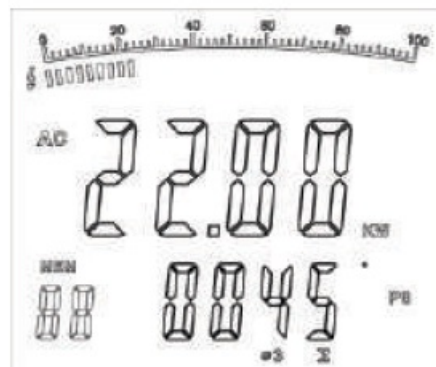

Figure 12
5. If necessary, press Σ to get the sum of watts as figure 12